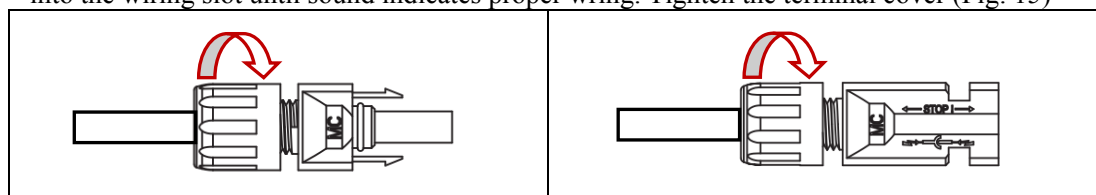

Fig. 15
2. Loosen the terminal cover and pass the cable through the terminal cover. Insert the tube core into the wiring slot until sound indicates proper wiring. Tighten the terminal cover (Fig. 15)